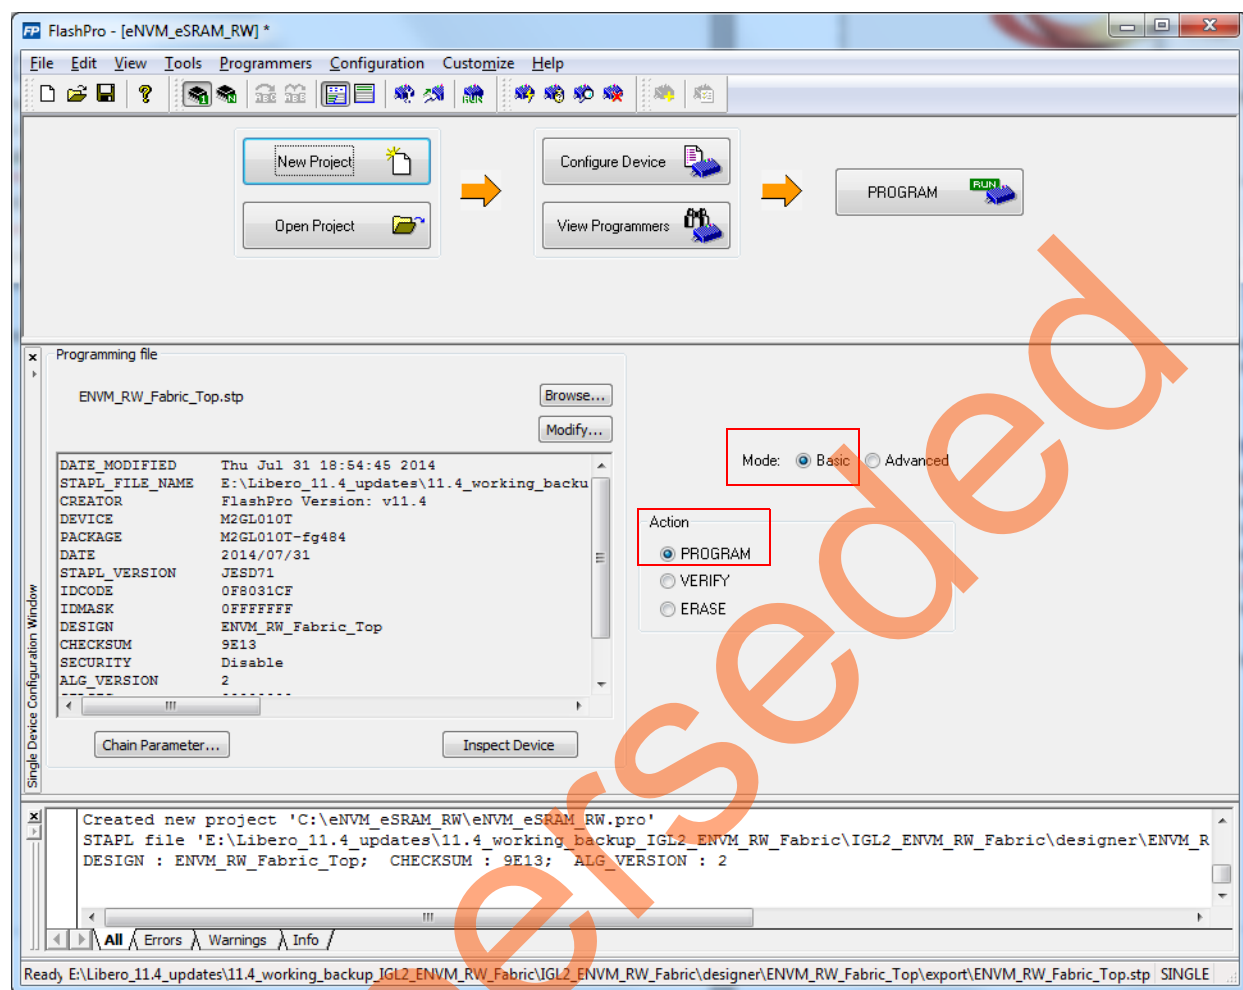

Figure 19 • FlashPro - Project Configuration
1. Click **Configure Device** on the FlashPro GUI (see Figure 19).
3. Select **Basic** as Mode and **PROGRAM** as Action (highlighted in Figure 19).